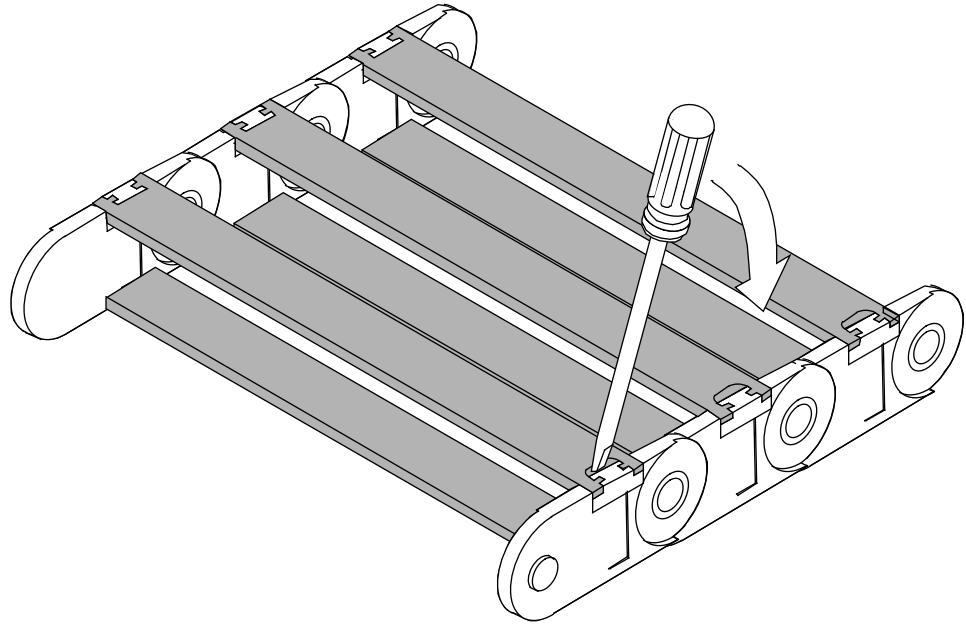

Figure 6. Flexible Cable Way Crossbars
6. Pry open each crossbar of the cable way, using a standard 1/8-in. flat-bladed screwdriver and leave the inner side attached. Refer to Figure 6.